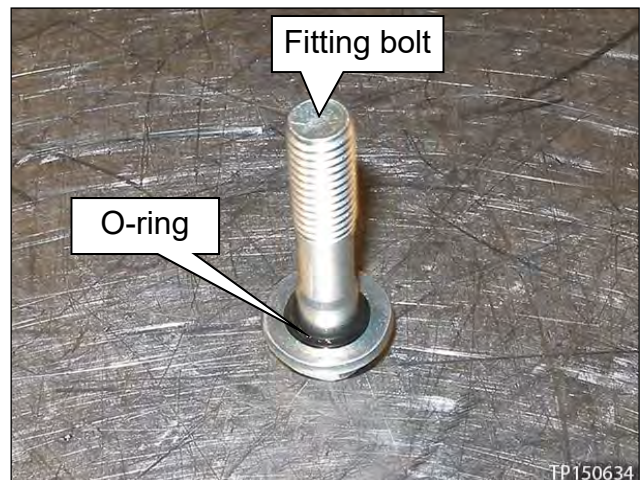

Figure 62
42. Place a new O-ring on the fitting bolt, and then coat the O-ring with CVT fluid (Figure 62).